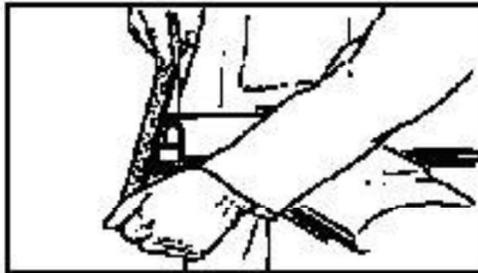

Fig. 20: Deburr the sawn edges
7. Deburr the sawn edges (see Fig. 20).